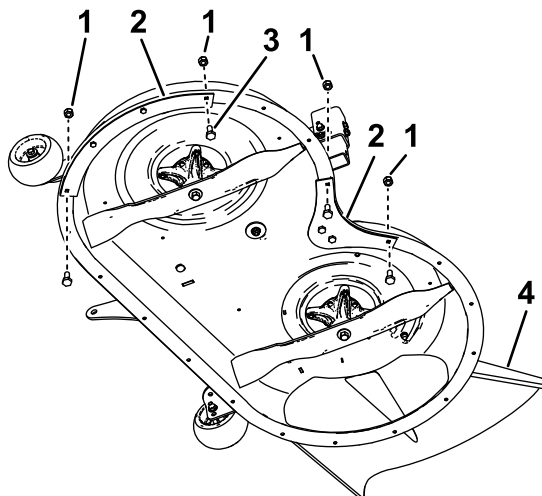

Figure 1
2. Remove the existing nuts and bolts from the ends of the existing baffles as shown in Figure 1.